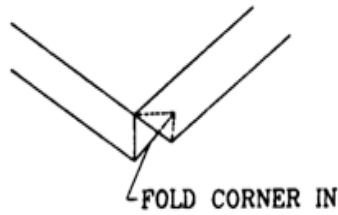
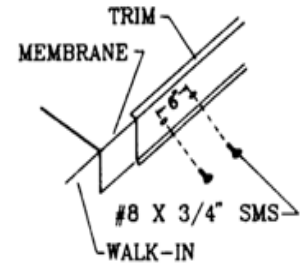
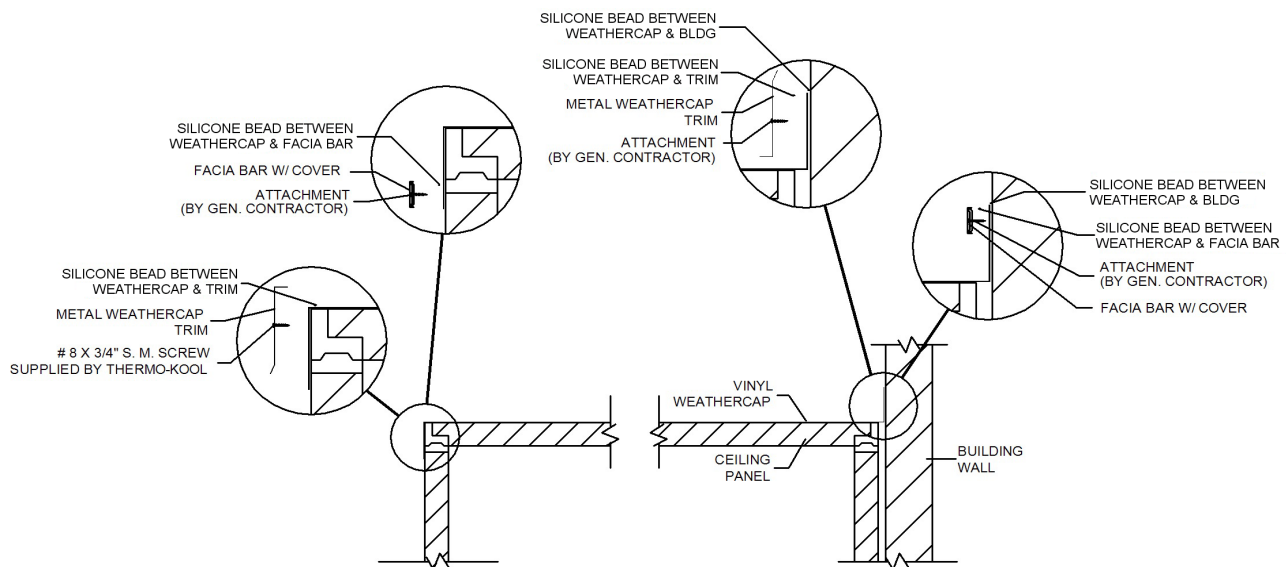

FIGURE 22 - VINYL WEATHERCAP END PIECE
FIGURE 23 - FLASHING TRIM
FIGURE 24 - WALK-IN VINYL WEATHERCAP SECTION
7. Once the attachment of the vinyl weathercap has been completed, fold the corners of the vinyl roof cap as shown (Refer to Figure 22) and install flashing trim (Refer to Figure 23) around the perimeter of the walk-in, using #8 x 3/4" sheet metal screws spaced 6" on center (Refer to Figures 23 and 24). Seal the top edges of flashing trim to the vinyl roof (Refer to Figure 24).